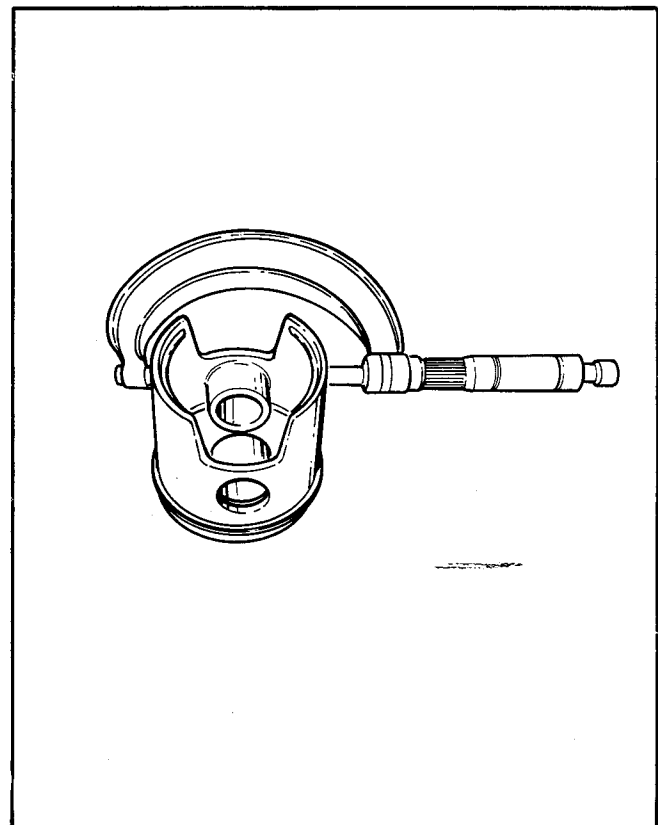

Figure 53 – Measuring Piston
- d. See Figure 53. Measure piston at bottom of skirt, 90° from piston pin bore.